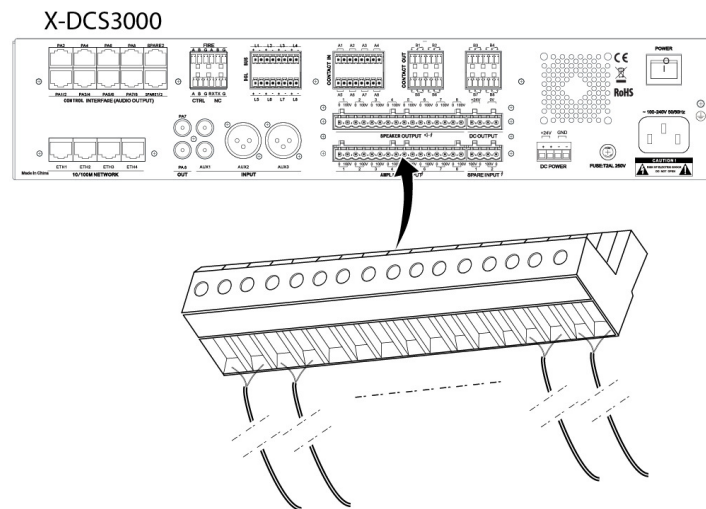

Figure 14 Schematic Diagram of the X-DCS3000 1070V Audio Input Wiring Terminal Installation
- f. Insert the power amplifier input wiring terminal of the installed audio output cable into the DCS PA audio input port, as shown in Figure 20 and Figure 14.